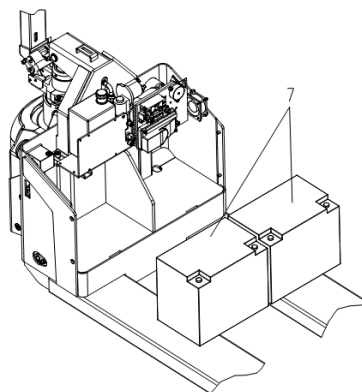

Fig.10
- (Fig 10) Remove old battery7, assemble the new battery according to the opposite steps;